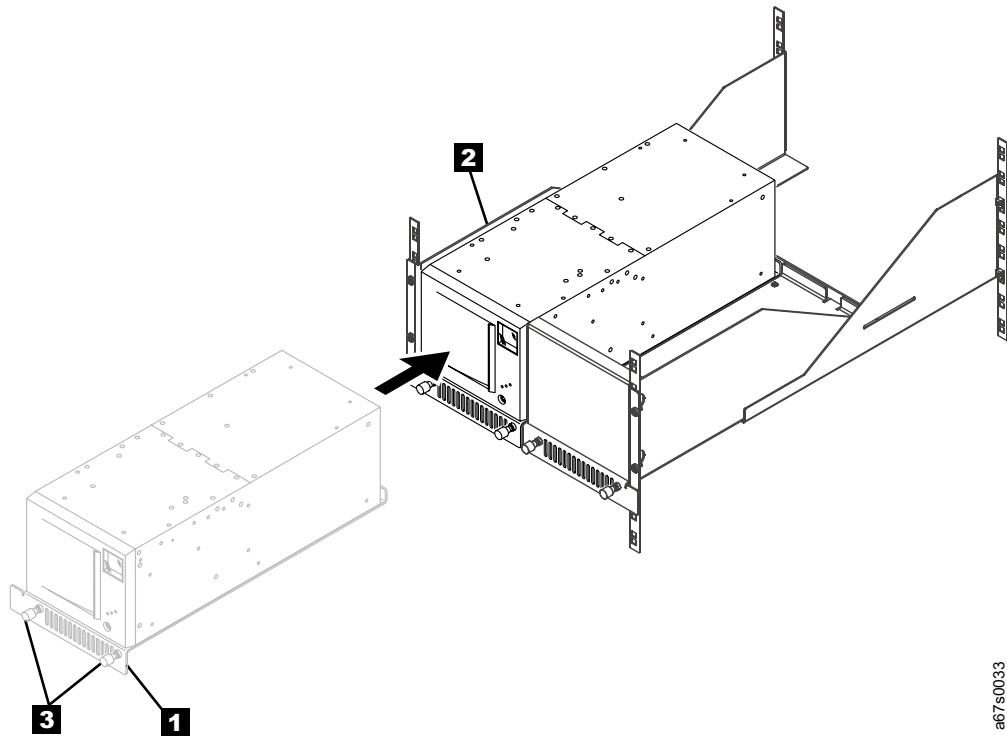

Figure 44. Installing the sled onto the rackmount tray
1. Slide the sled ( **1** in Figure 44) into position on the rackmount tray ( **2** ).